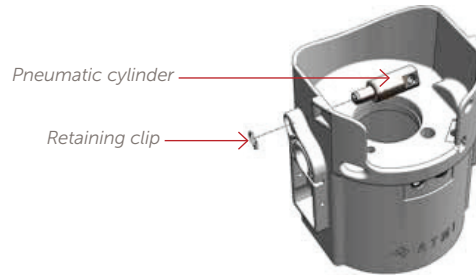

Figure 44. Pneumatic cylinder and retaining clip assembly.
- c. The cylinder is now free to be removed from the connector body. Remove the cylinder to gain access to the screw (see Figure 44).